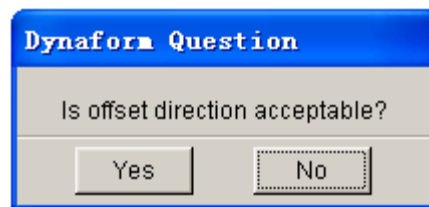

Figure 5.1.39 Dynaform Question dialog box
- The eta/DYNAFORM Question dialog box as illustrated in Figure 5.1.39, is displayed. There is an arrow in the display area indicating the offset direction.